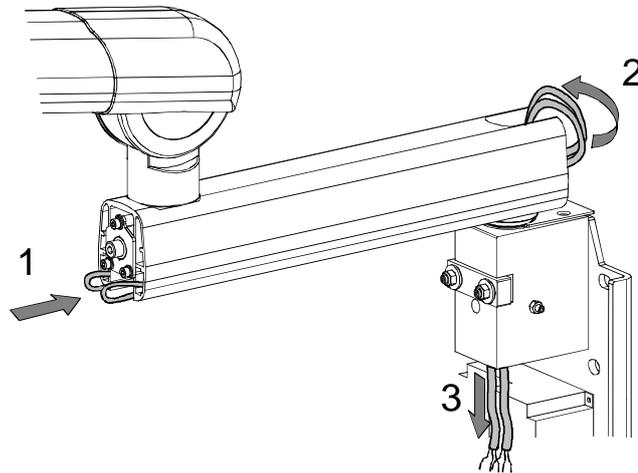

Figure 6-10
8. Holding this position, insert the cables coming from the scissors arm inside the extension arm (power cable on one side and filament cable and the grounding cable on the other side) following the drawing in Figure 6-10; this will make sure that the cables are not tensioned during use. To make this easier, wrap together the grounding and filament cables with tape.